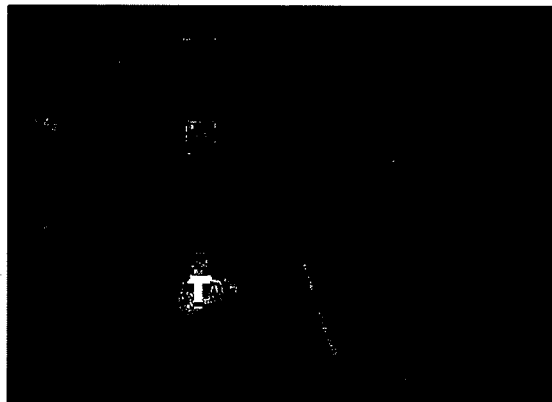

Figure 17
1. To lower the squeegee and start the vacuum motor, move the squeegee lever to the right and down. See figure 17.